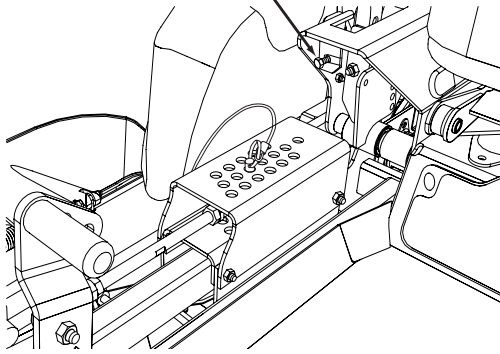

Figure 6-4. Tracking Adjustment
- A. Stop the machine and place the steering control levers in the neutral position. Turn the tracking adjustment bolt for the LH pump inward (clockwise). This will cause the control rod to stroke the LH pump less, slowing down the LH wheel. See Figure 6-4.
- A. Stop the machine and place the steering control levers in the neutral position. Turn the tracking adjustment bolt for the RH pump inward (clockwise). This will cause the control rod to stroke the RH pump less, slowing down the RH wheel. See Figure 6-4.